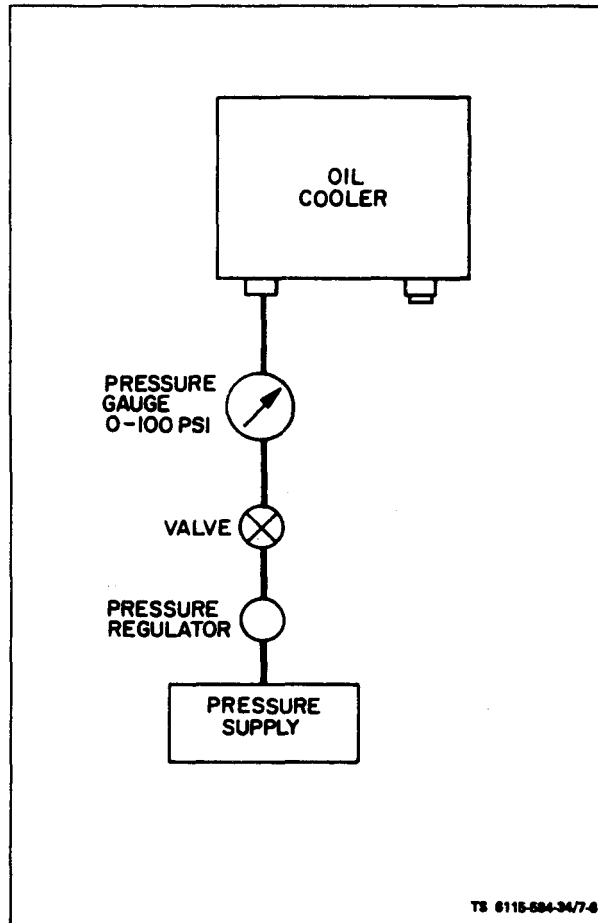

Figure 7-6. Testing Oil Cooler
c. Test (see figure 7-6).
(1) Plug the oil cooler outlet using suitable plug.
(2) Connect the oil cooler in suggested test setup (see figure 7-6).
(3) Apply 25 psi air pressure to the oil cooler.